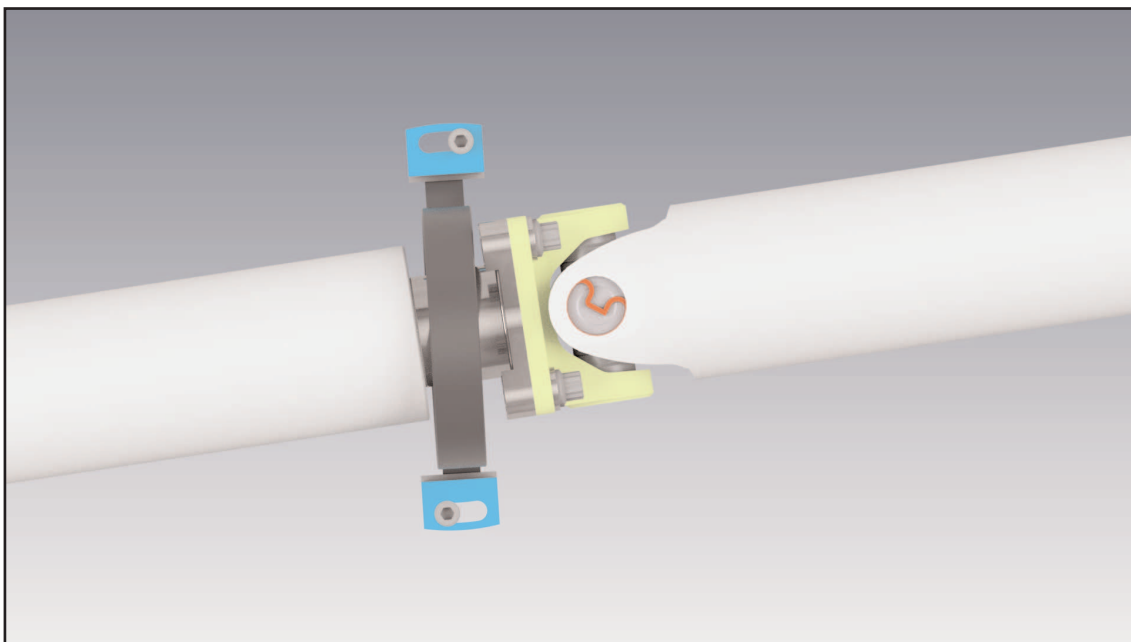
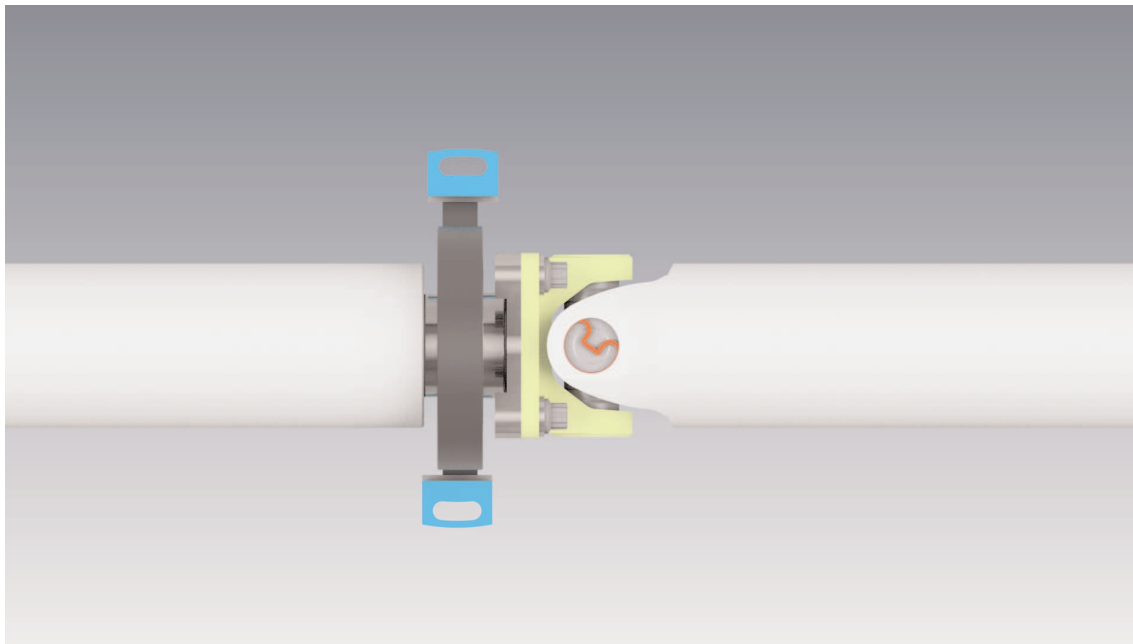

Figure 3: Misaligned Slot Center Support
Figure 4: Aligned Slot Center Support
3) Adjust center bearing along the circular slot so that the face of the center support is parallel to the driveshaft tube when viewed from the top. Figure 3 below shows a misaligned center support, see figure 4 for the correct orientation.